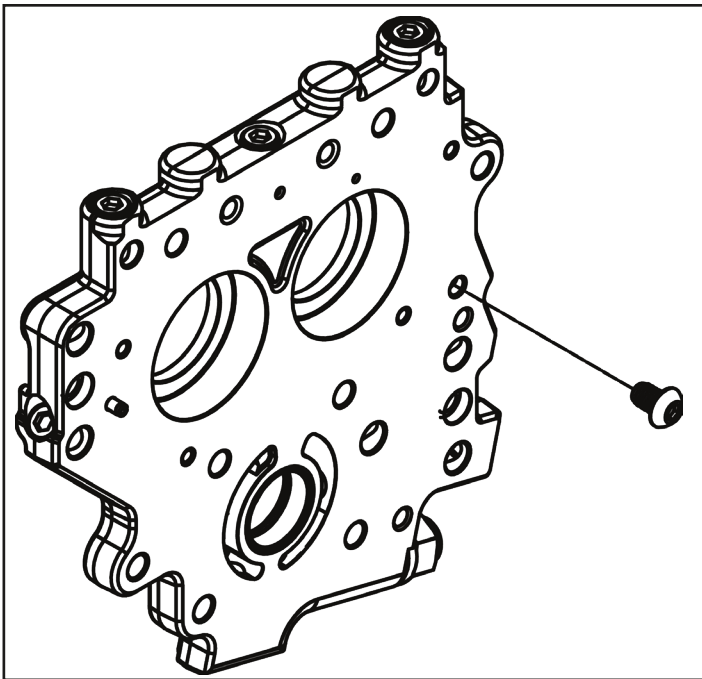

Figure 4
- Some early 1999 model engines do not have a chain oiler boss. See **Pictures 12 and 13.** If your engine does not have this boss, screw #500-0346 must be installed to block the oil hole in the back side of the cam plate. Install with red thread locker and tighten to 70 in-lb. See **Figure 4** on next page.